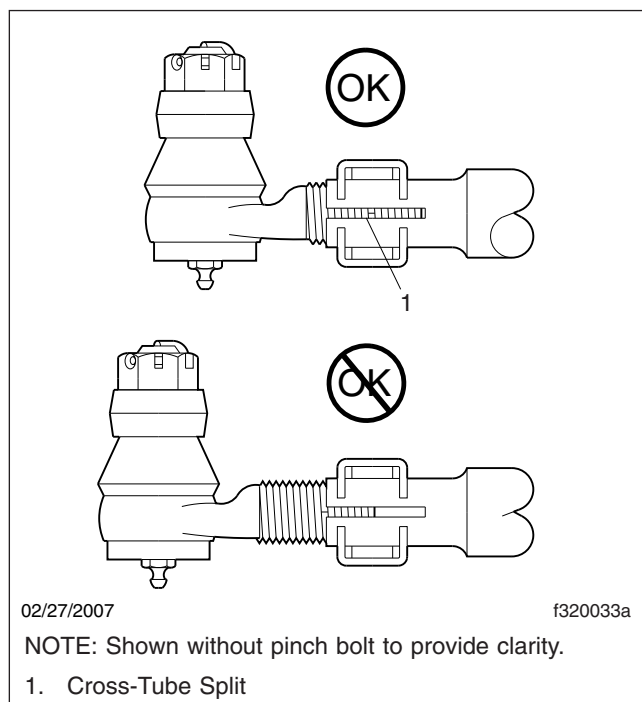

Fig. 5, Tie-Rod End Adjustment
4. The threaded portion of the tie-rod end assembly must be inserted all the way into the cross-tube split for adequate clamping; see Fig. 5. Replace the components if this cannot be done; see Group 33 of the 122SD and Coronado Workshop Manual.